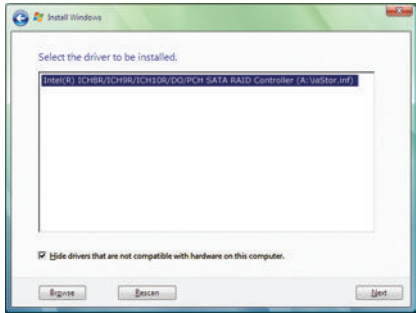

Figure 7
When a screen as shown in Figure 7 appears, select **Intel(R) ICH8R/ICH9R/ICH10R/DO/PCH SATA RAID Controller (A: \aStor.inf)** and click **Next**.